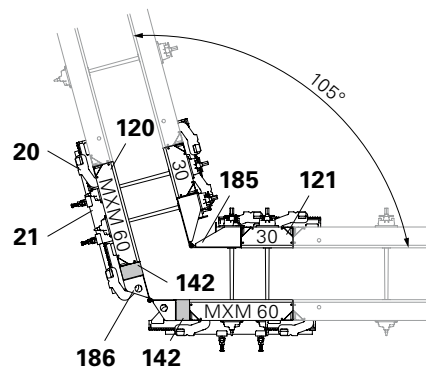
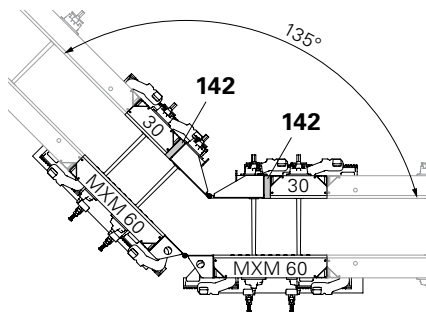

Fig. C8.02
Fig. C8.04
105° – Fig. C8.02 + C8.06 + C8.07
135° – Fig. C8.04 + C8.06 + C8.07
Offset arrangement of Alignment Couplers (20) on Articulated Corner MXGI (185). (Fig. C8.02 + Fig. C8.04)